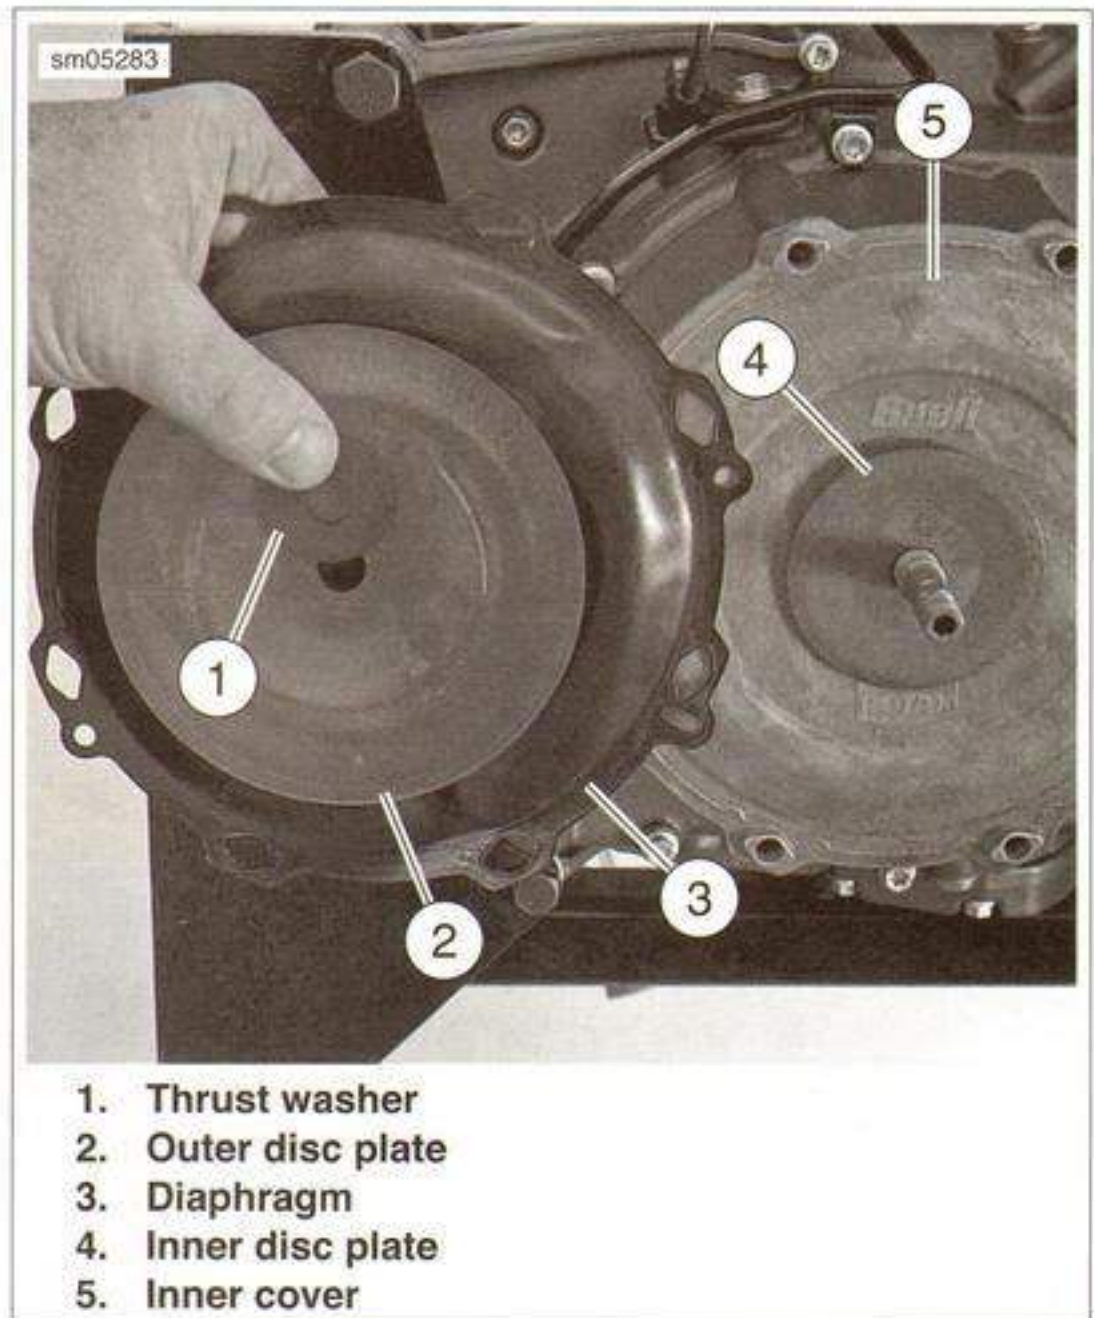

Figure 6-30. Vacuum Assist Diaphragm Components
3. See Figure 6-30. Remove the thrust washer (1), the outer disc plate (2), the diaphragm (3) and the inner disc plate (4).
4. Remove the inner clutch diaphragm cover (5).